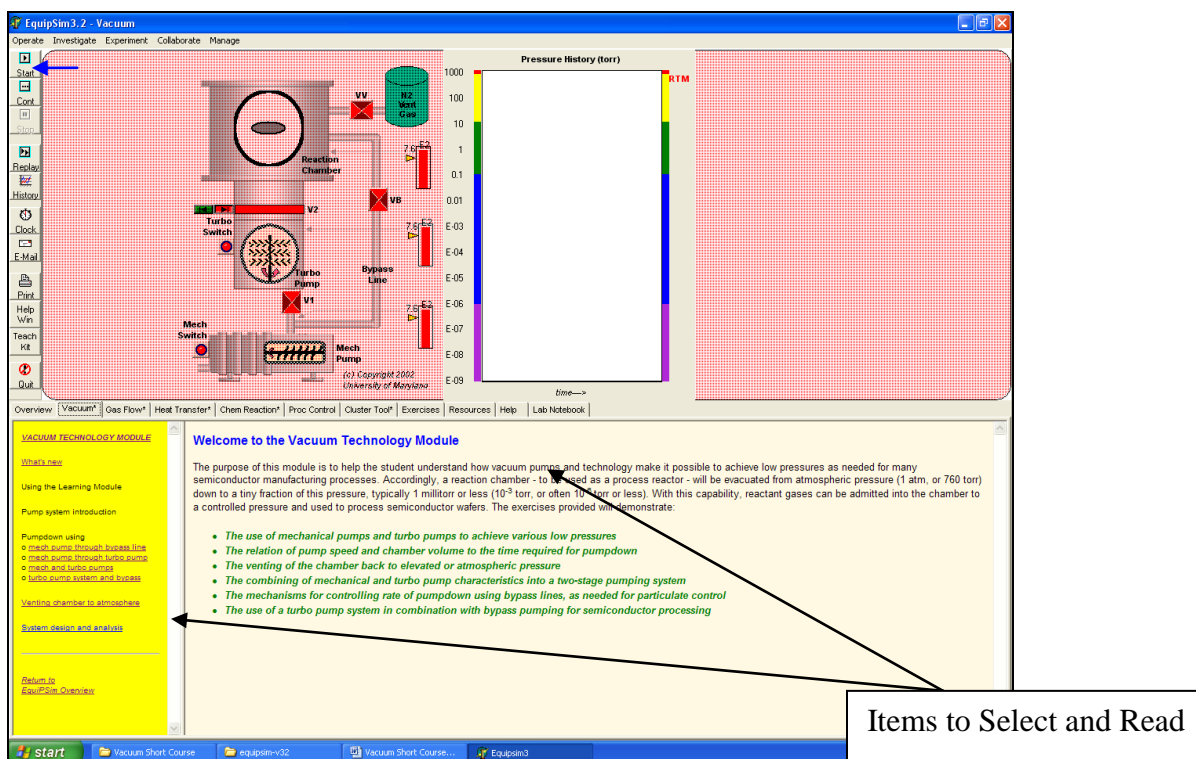

Figure 2 Main screen of the vacuum simulator.
- a. After selecting the "**EquipSim3**" icon, the window on the next page should open, Figure 2.
- G. Familiarizes yourself with the program by clicking the “**Start**” button (shortcut key F9) at the top left of the window directly below the “Operate” tab, see blue arrow in Figure 2.